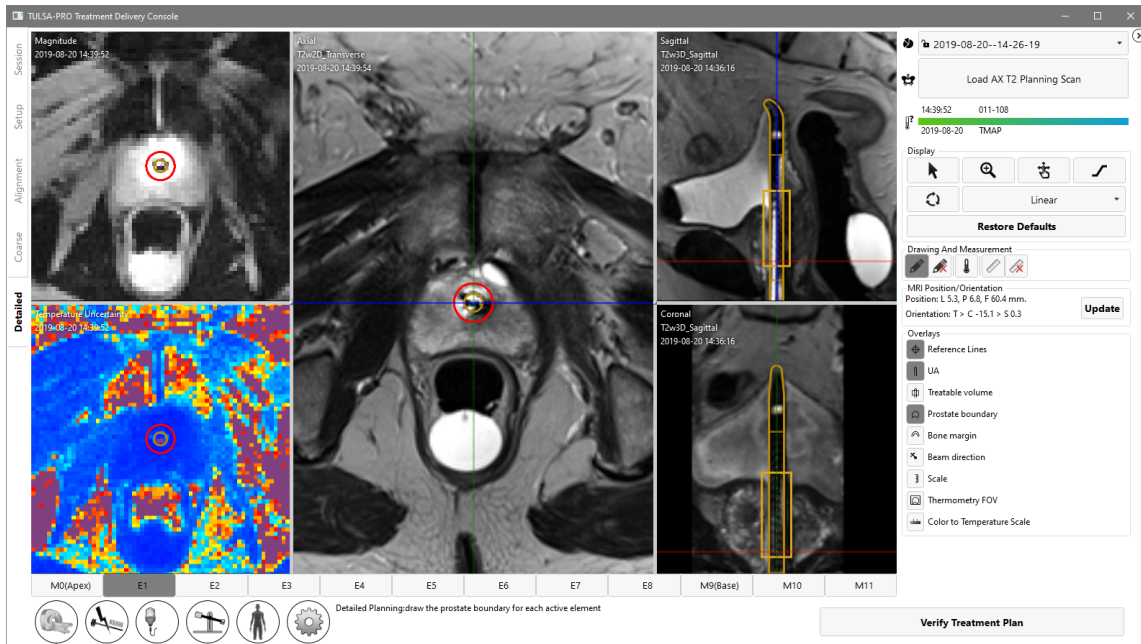

Figure 36: Detailed Planning workspace with Thermometry Magnitude and Temperature Uncertainty
6. Radiologist: As the thermometry scans are received, the **Magnitude** and **Temperature Uncertainty** views will be displayed automatically. Use **Load ... Scan** to load the AX T2 or AX DWI images (*Figure 36*).